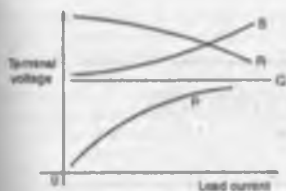

Figure 22.31
- 23 From Fig. 22.31, the expected characteristic for a shunt-wound d.c. generator is: